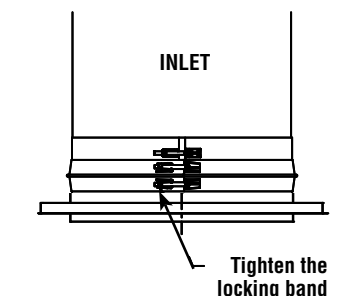

Figure 41a
4. Tighten the Locking Band to hold and seal the adaptor in place. See **Figure 41a** for typical installation.